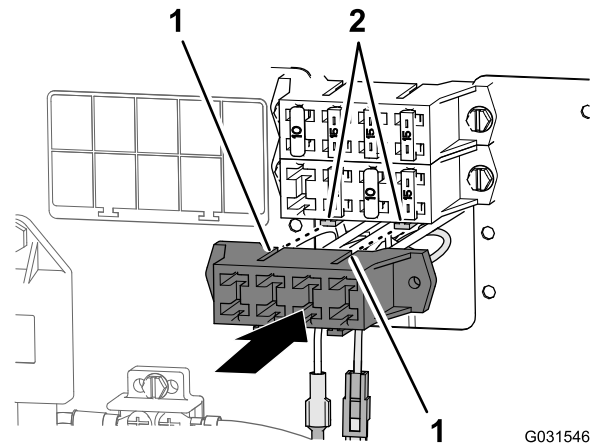

Figure 205
3. Align the slots in the auxiliary-fuse block with the mounting flanges of the fuse block of the machine (Figure 205).